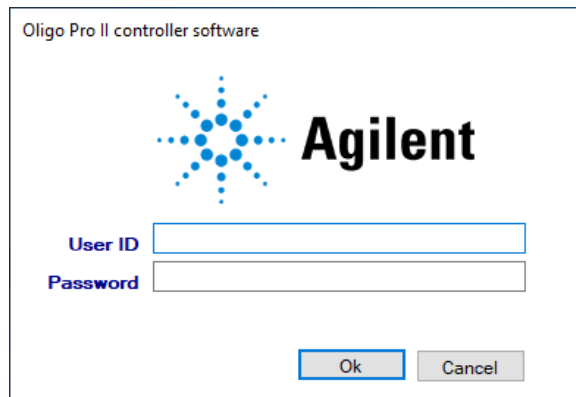

Figure 10 Login menu
- 2 To log into the Oligo Pro II software, type **Administrator** or **User** into the **User ID** field of the login window (**Figure 10**).
After logout, the login menu opens (**Figure 10**).